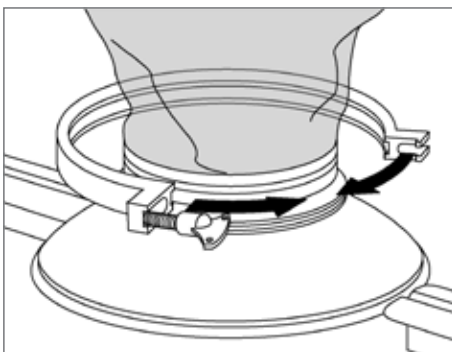

Figure 69
- Connect the 4" sanitary flange of the powder bag to the 8" | 4" reducer (see Fig. 69)